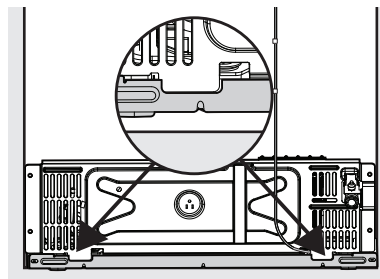

Figure 22
21. Remount the access cover by hooking it on the back bottom of the cabinet. Route the water tube from the bottom to the outside, securing the access cover with the 4 screws. See Figure 22.